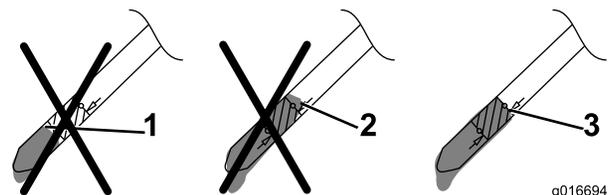

**Figure 33**
6. Remove the dipstick and drain the used oil into the oil-drain pan (Figure 33).